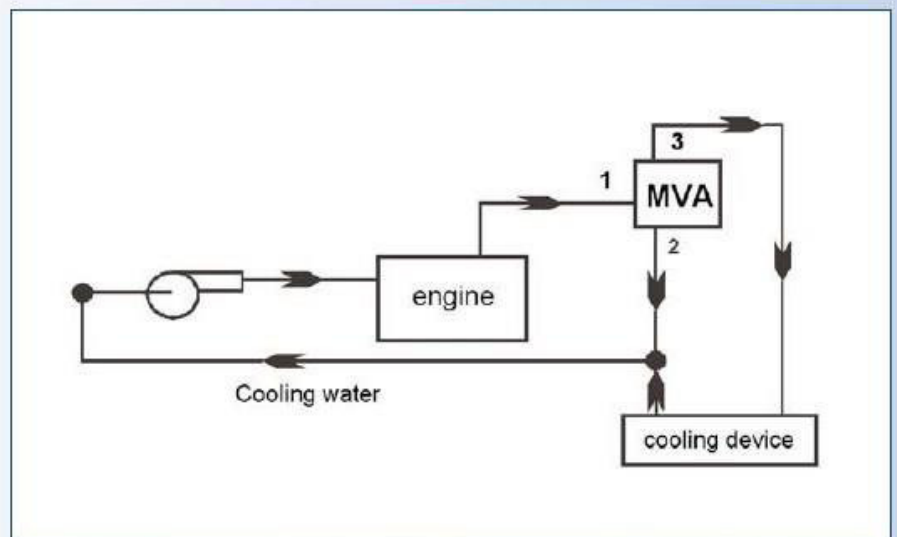

Fig. 3 COOLING WATER - DIRECT COOLING
In Fig. 3 the temperature of the cooling water is maintained constant at the engine's outlet. If the point T is above the water line, a non-return-valve (W) must be installed, in order to avoid that the cooling system loses all its fluid if the engine is stopped.